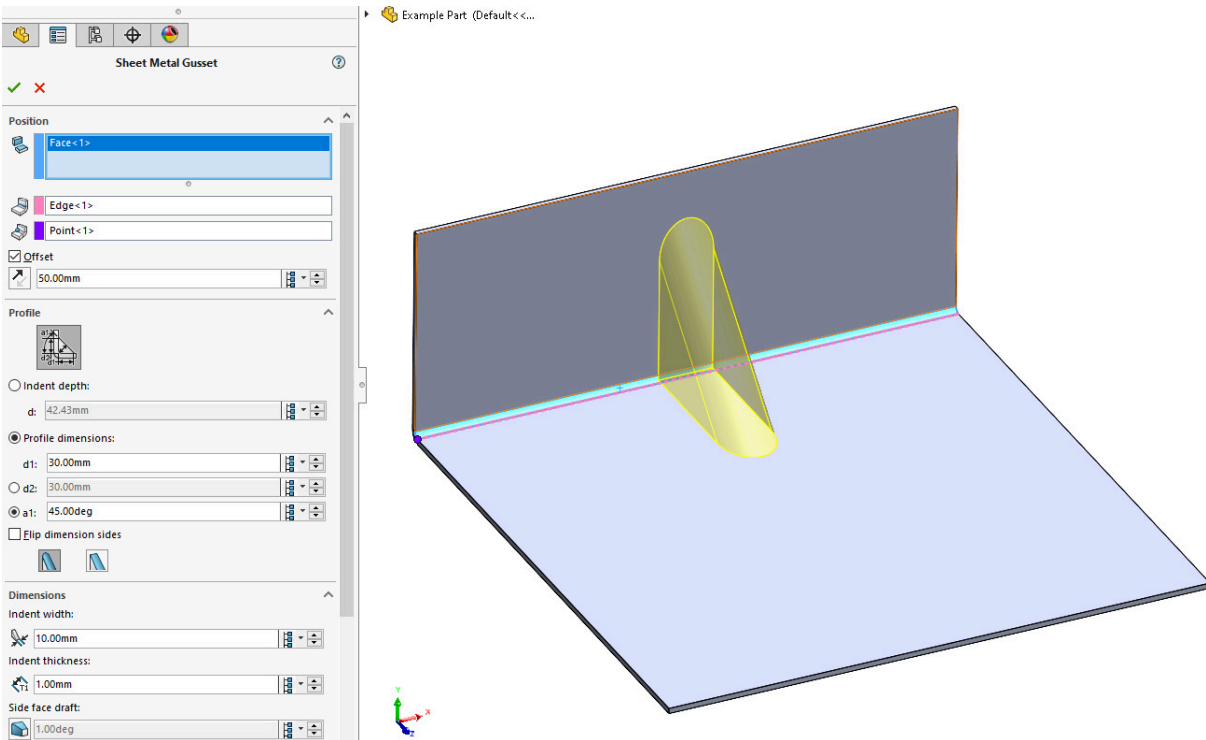

Figure 6.4: Setting the Gusset's position by offsetting it from the endpoint by 50mm
8. Select the **Offset** option and set the distance to **50mm** so that our **Gusset** is halfway along the bend (*Figure 6.4*):